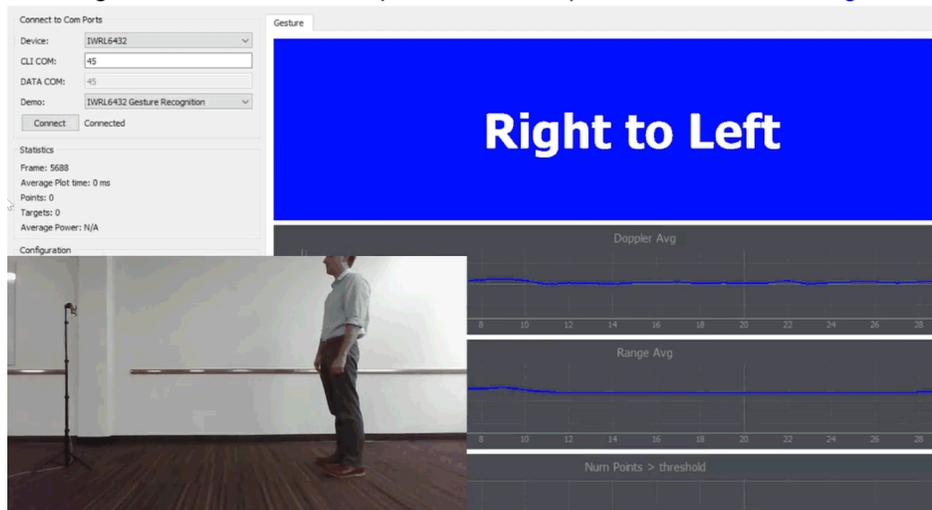

Figure 3-4. Gesture recognition using mmWave
- **Gesture Recognition:** By detecting different gestures (up to down, left to right, push, pull, etc.), we can adjust air conditioning functions, such as temperature, wind speed, etc. as seen in Figure 3-4.